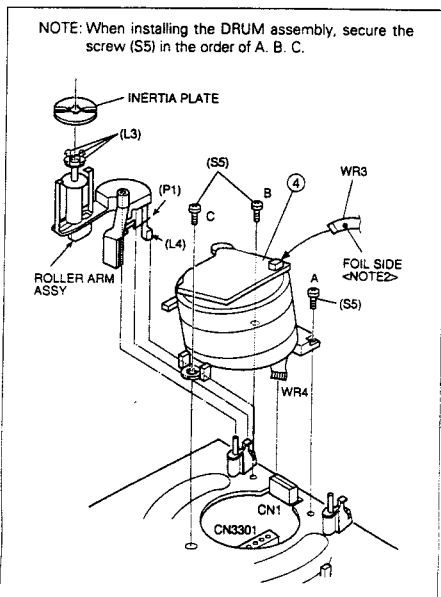
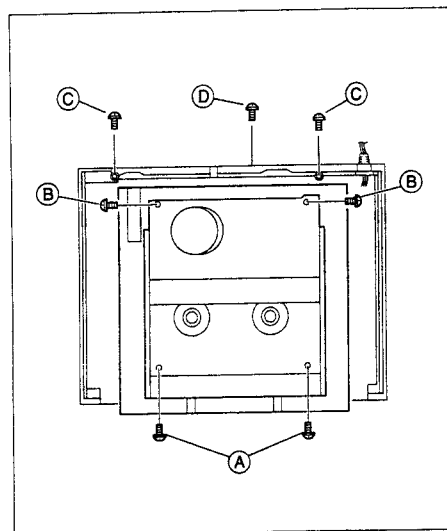

Fig. D4
Fig. 1-4-1
- (1) Remove the Top cover, Bracket, Front panel assembly and JACK board assembly. (See 1.3 DISASSEMBLY/ASSEMBLY METHOD. Take care not to pull the drum wire (Fig.D4) from CN1).
- (2) Lower the cassette holder, and make the preparations required in order to remove the screws from the Main deck assembly (Refer to the "Procedures for Lowering the Cassette holder assembly" on pages 1-3 of 1.3 DISASSEMBLY/ASSEMBLY METHOD).
- (3) Take out 2 screws (A) and 2 screws (B) as shown in Fig. 1-4-1.
- (4) Take out 2 screws (C) and take out 1 screw (D) to install the Bottom cover (See Fig. 1-4-1).